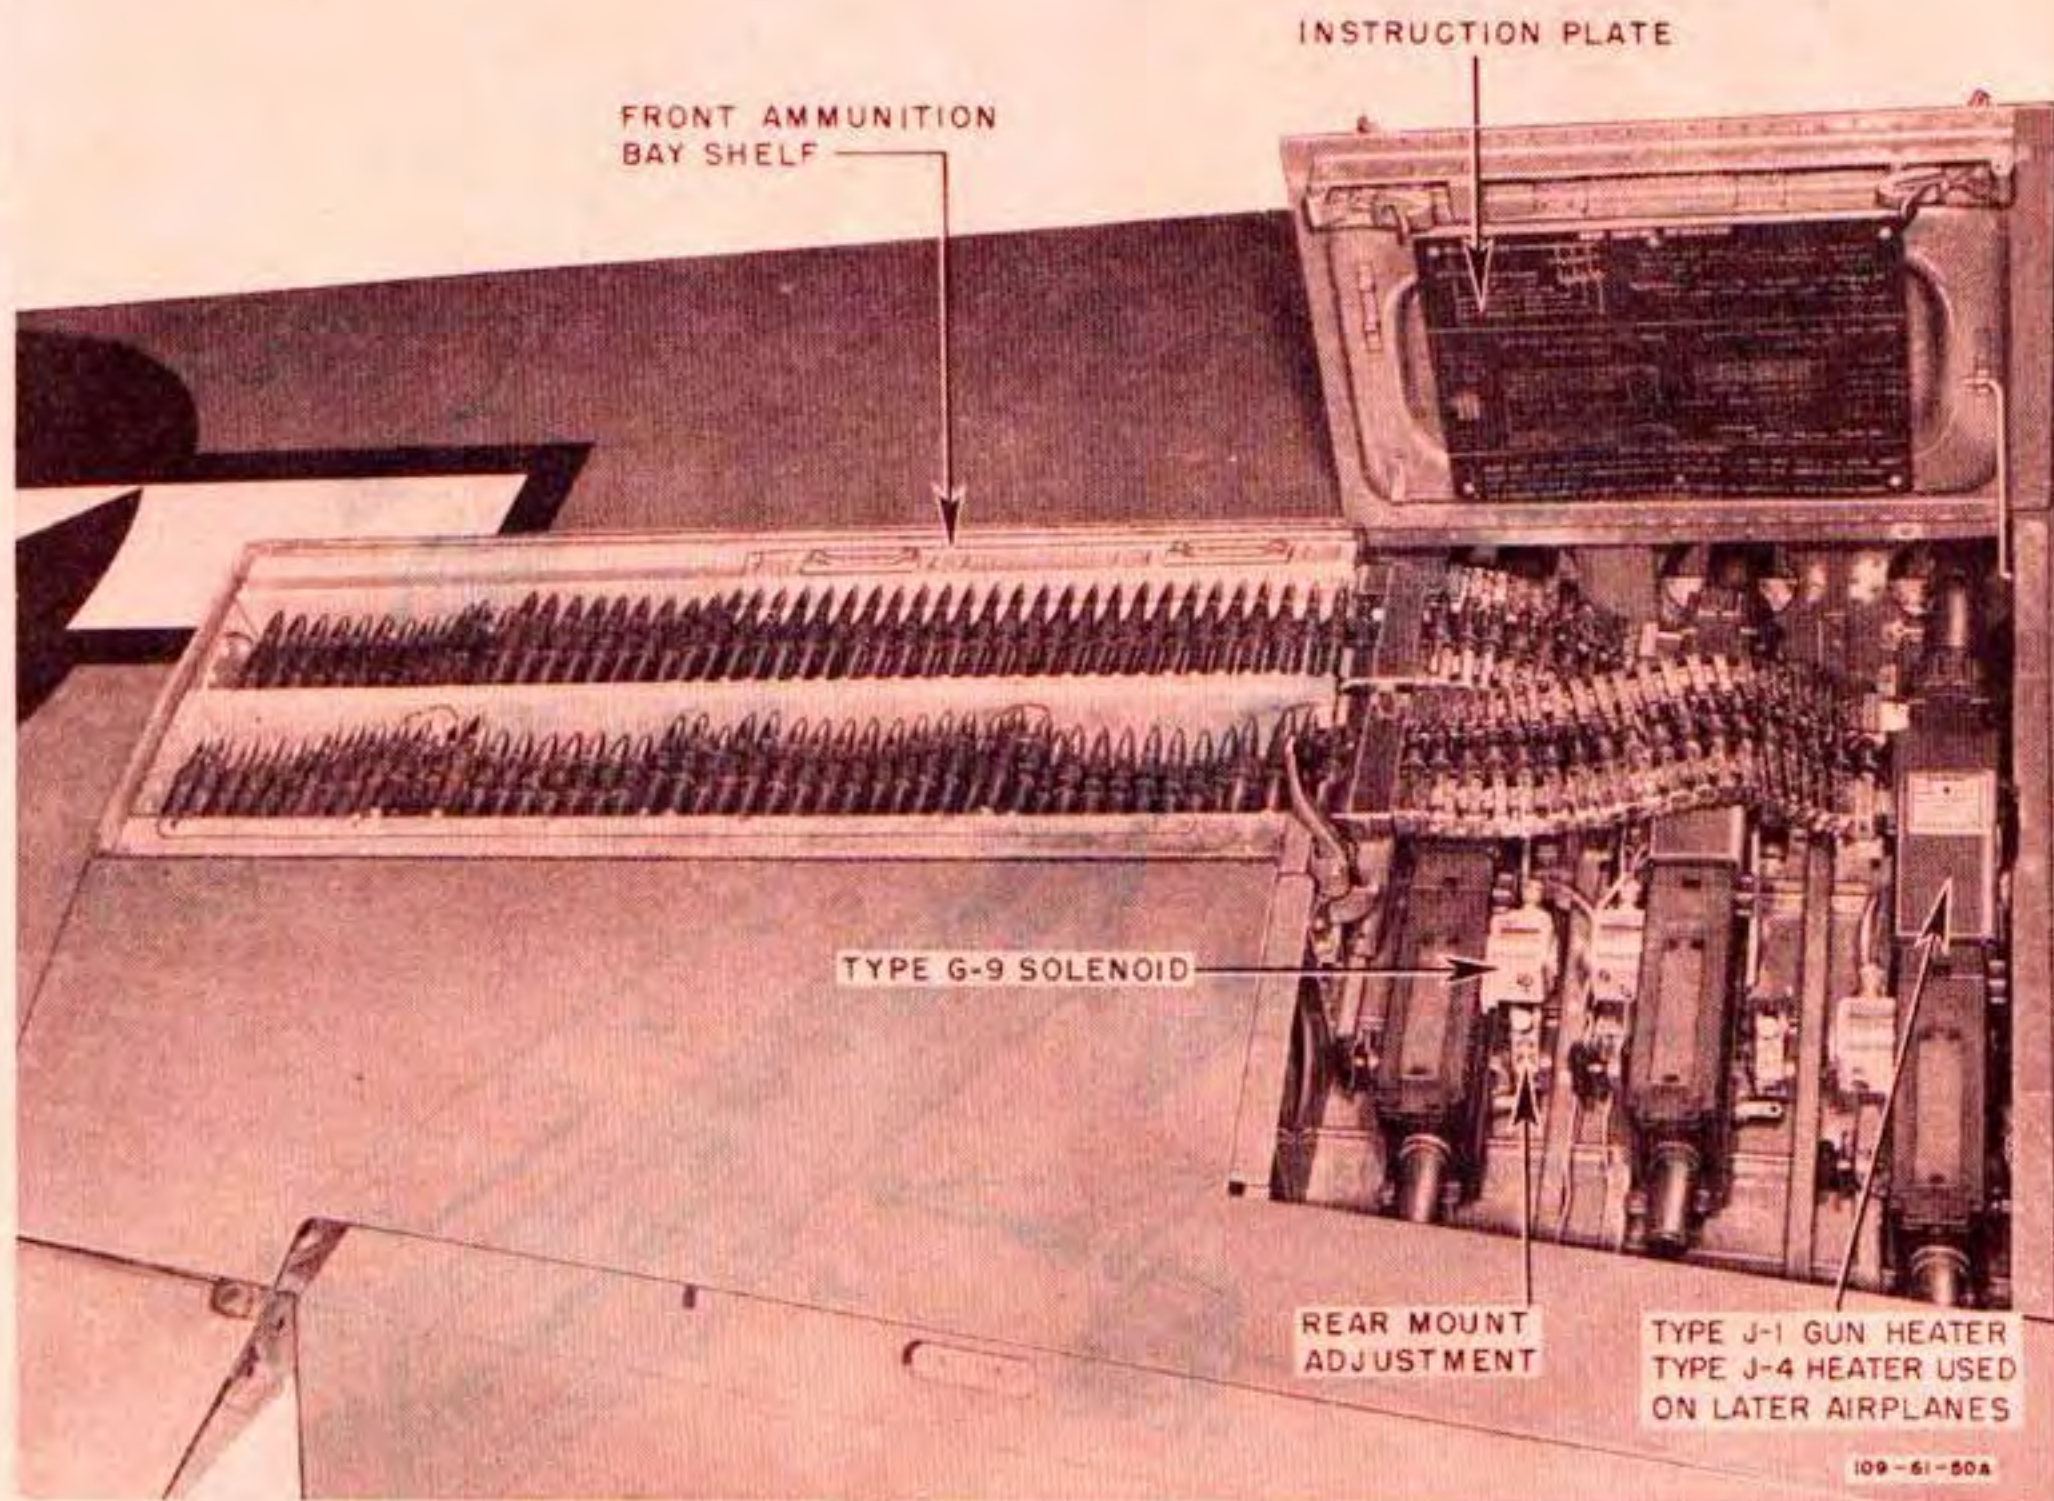
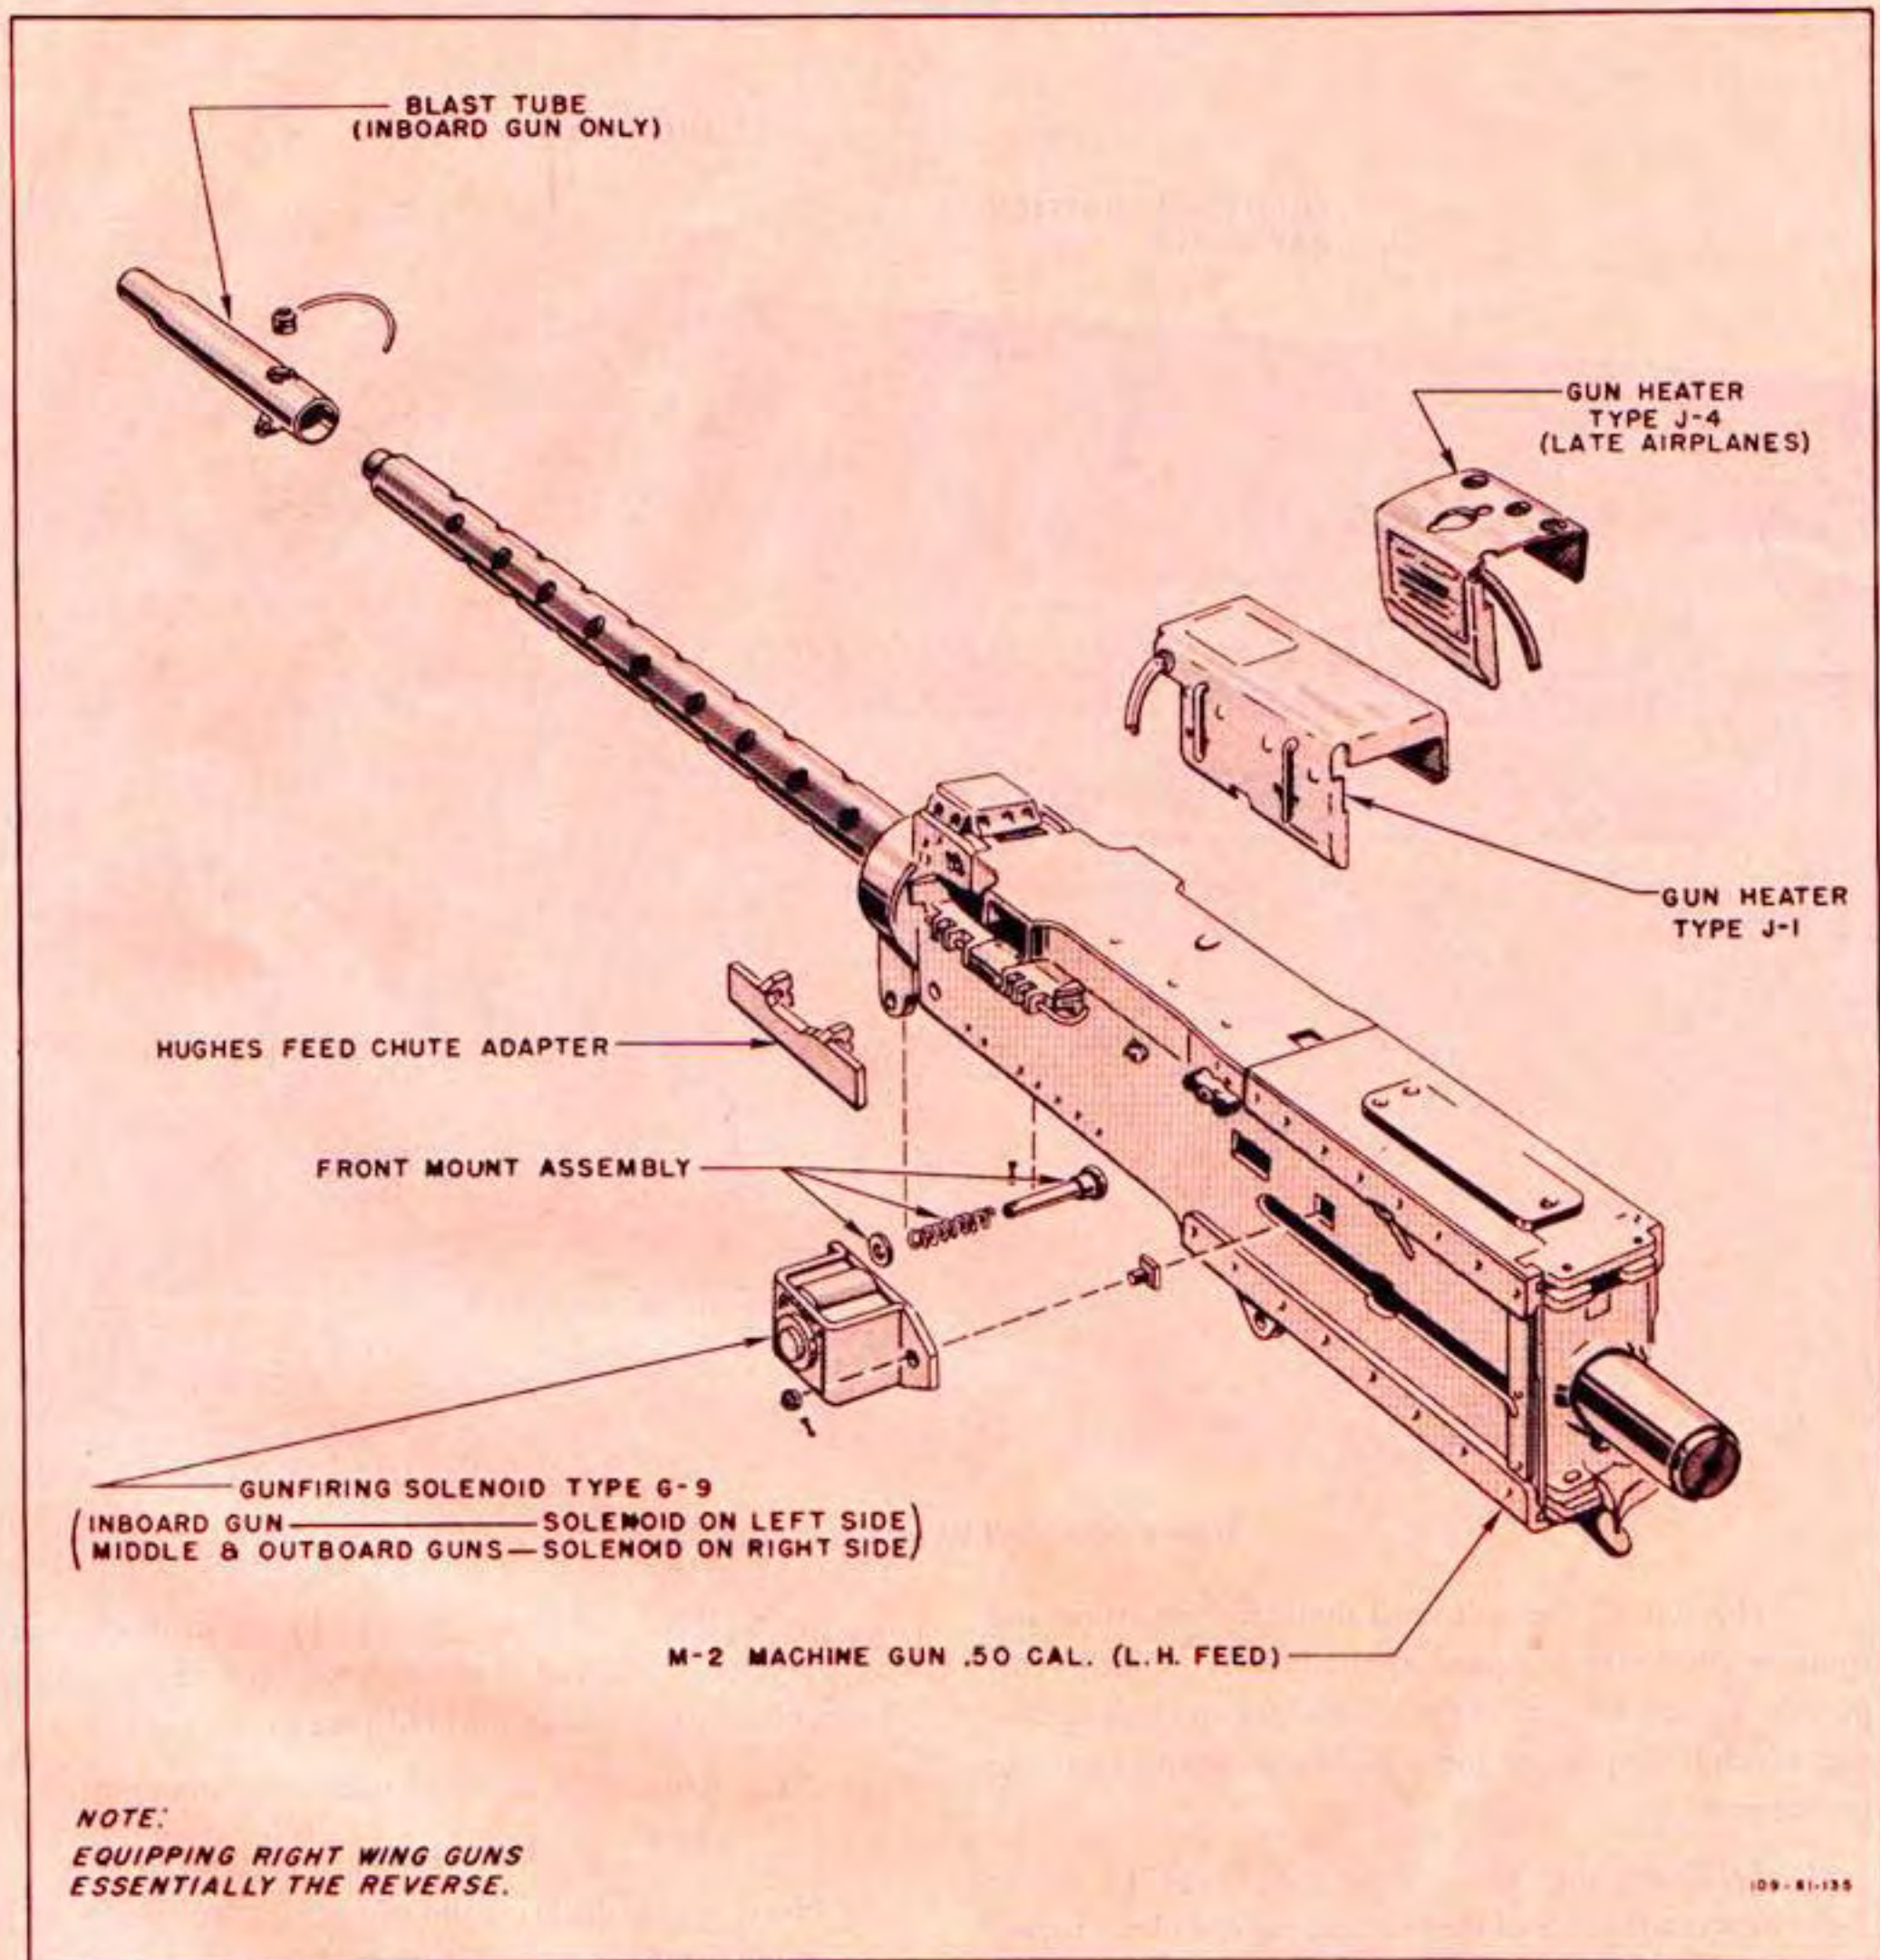

Figure 443—Left Wing Guns Installed
Figure 444—Equipping Guns
(1) DESCRIPTION.—The guns and ammunition boxes, shown installed in figure 443, are entirely enclosed within the wing. Each gun is vertically mounted on a Type A-1 front mount and adjustable rear mount (NA 106-61026) and equipped with a Type G-9 gun firing solenoid, and a Type J-1 or a Type J-6 electric gun heater.
(2) REMOVING GUNS.—Disconnect feed chute and the solenoid and heater wires. Remove link ejection chute. Loosen rear mount clamp lock screw, loosen front mount pin, and remove gun. Do not rest or slide guns on wing structure aft of gun bay.
(3) EQUIPPING GUNS. (See figure 444, and paragraphs e. (3) and (4).)—Assemble left wing guns for left-hand feed and right wing guns for right-hand feed.
(4) ADJUSTING GUN HEADSPACE.—The guns must be adjusted for headspace each time after the parts have been assembled. The only approved method is the following:
(1) DESCRIPTION.—A Type J-1 or a Type J-4 electric gun heater is installed on the coverplate of each gun (figures 443 and 444) and is controlled by a switch on the right switch panel.